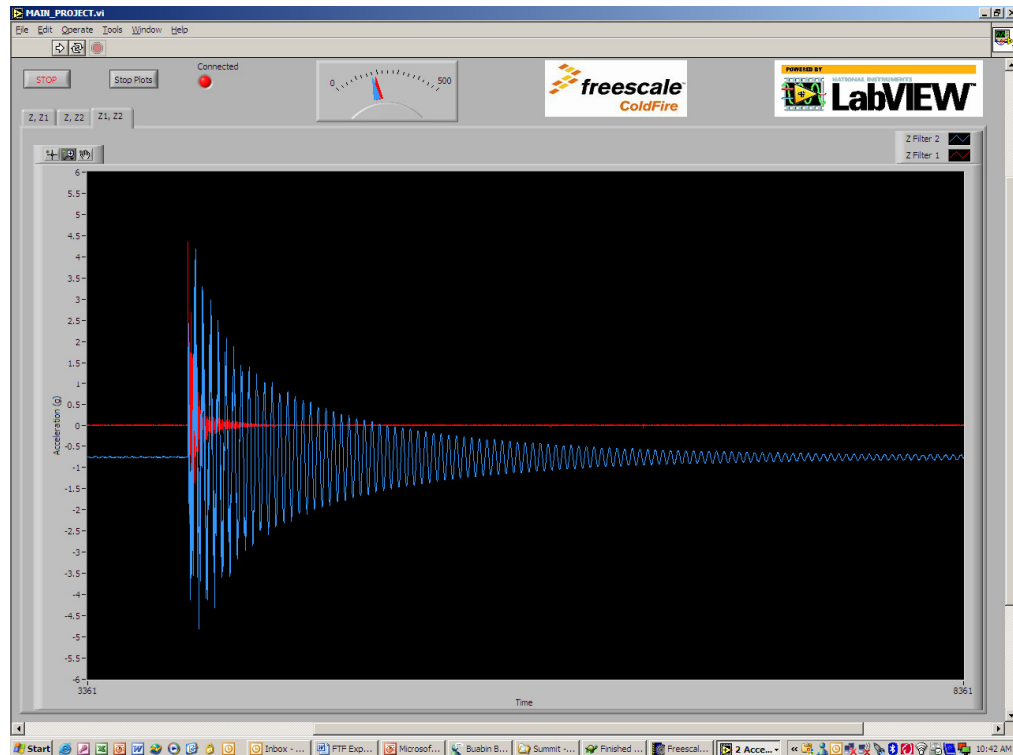

Figure 1c: Low and high pass filtered signals
- f. The tab labeled “Z1, Z2” displays the low pass filtered and the high pass filtered signals (Figure 1c).